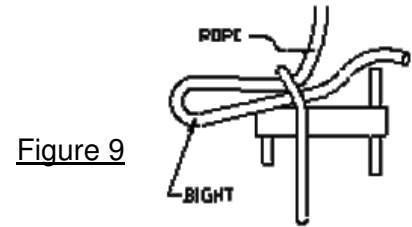

Figure 9
- To use the Port-A-Wrap begin by passing a loop (bight) of rope through the “small loop” as shown in Figure 9.